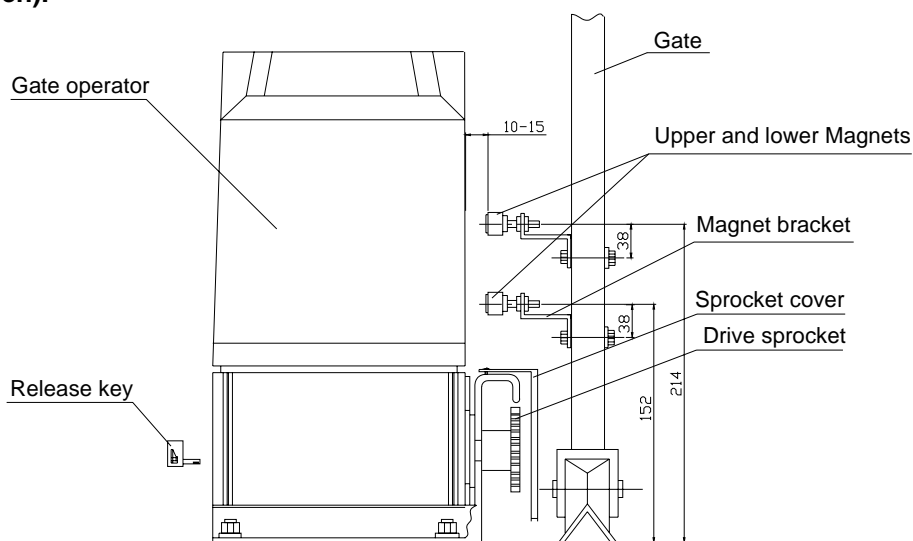

Fig.10 L110C
L110C-Magnets for limit switch (see Fig.10)
- Install the magnet as shown in Fig.10 below. The magnet and limit switch are used to control the position of the gate.